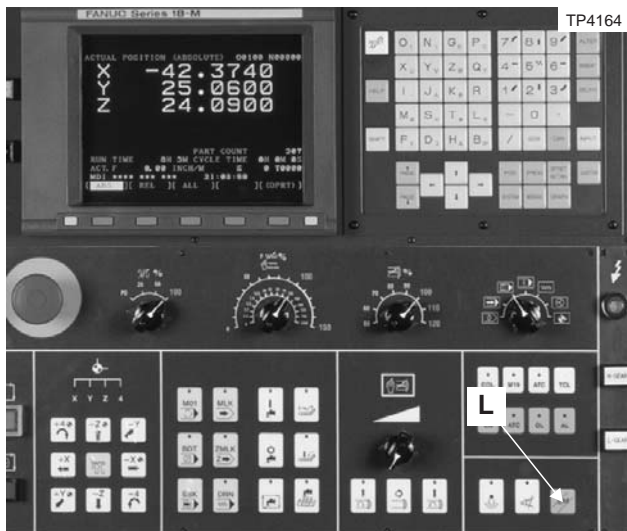

Figure 5.10 - EM Push Button
Yellow EM push button “L”, Figures 5.10 and 5.11 is an overtravel bypass switch that allows the operator to jog an axis or axes out of an overtravel condition.
2. Press **and hold** yellow EM push button “L”, Figure 5.10 or 5.11.